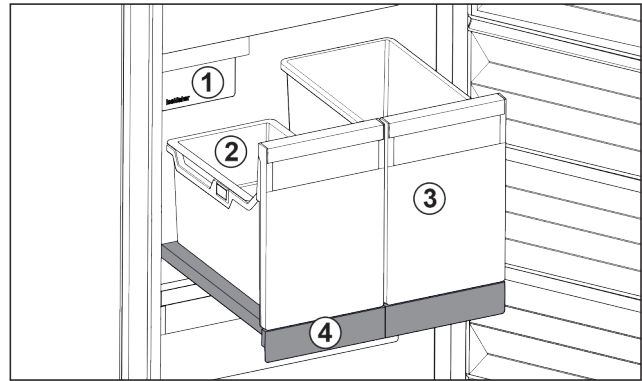

Fig. 24 Pull-out board with IceTower
On the pull-out board are two tall containers (IceTower). Ice cubes from the IceMaker are collected and stored in the container Fig. 24 (2). The container Fig. 24 (3) is suitable for storing tall foodstuffs or beverages such as pizzas or alcoholic drinks.